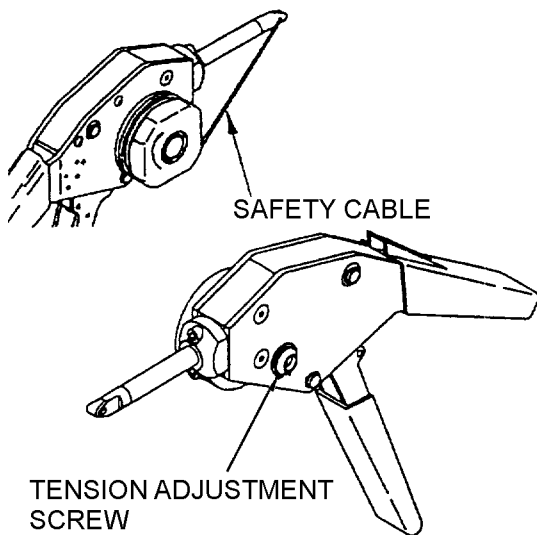

Figure 32. Adjustable Tension Safety Cable Tool.
52. **ADJUSTABLE TENSION TOOL** (Figure 32). Thread the safety cable through the fastener, ferrule, and tool nose in the same way as with other models. Wrap the cable one full revolution (clockwise) around the tension wheel, and with slight pressure applied by pulling the cable, secure the cable into the slot. Rotate the tension knob until several clicks are heard and felt. If additional tension is required, adjustment can be made